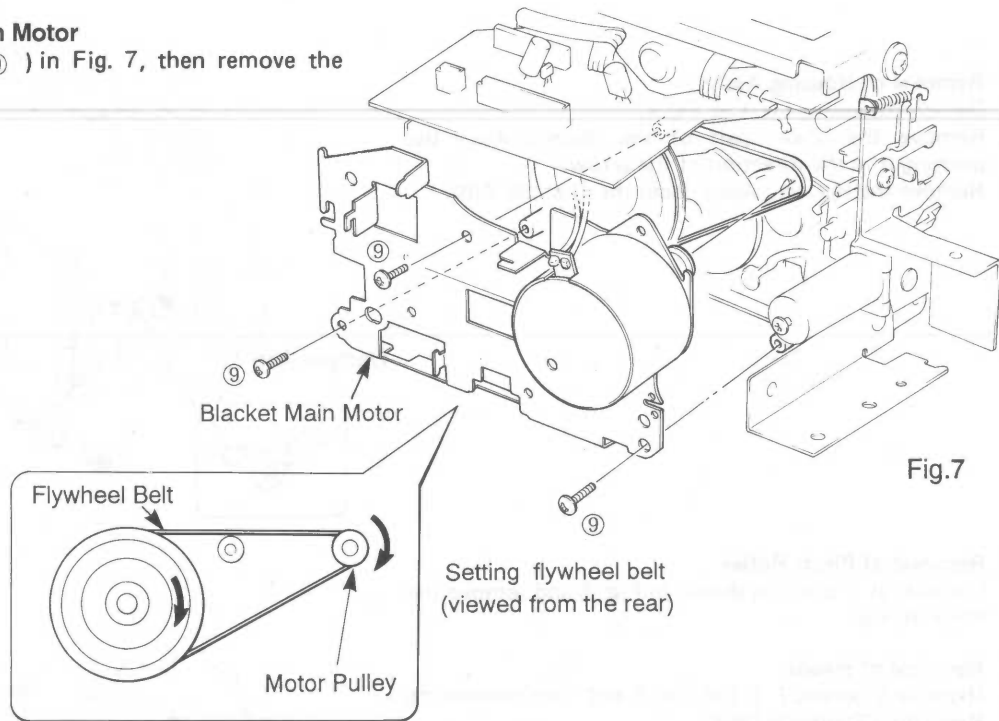

Fig.7
Remove 3 screws ( ⑨ ) in Fig. 7, then remove the Blacket Main Motor